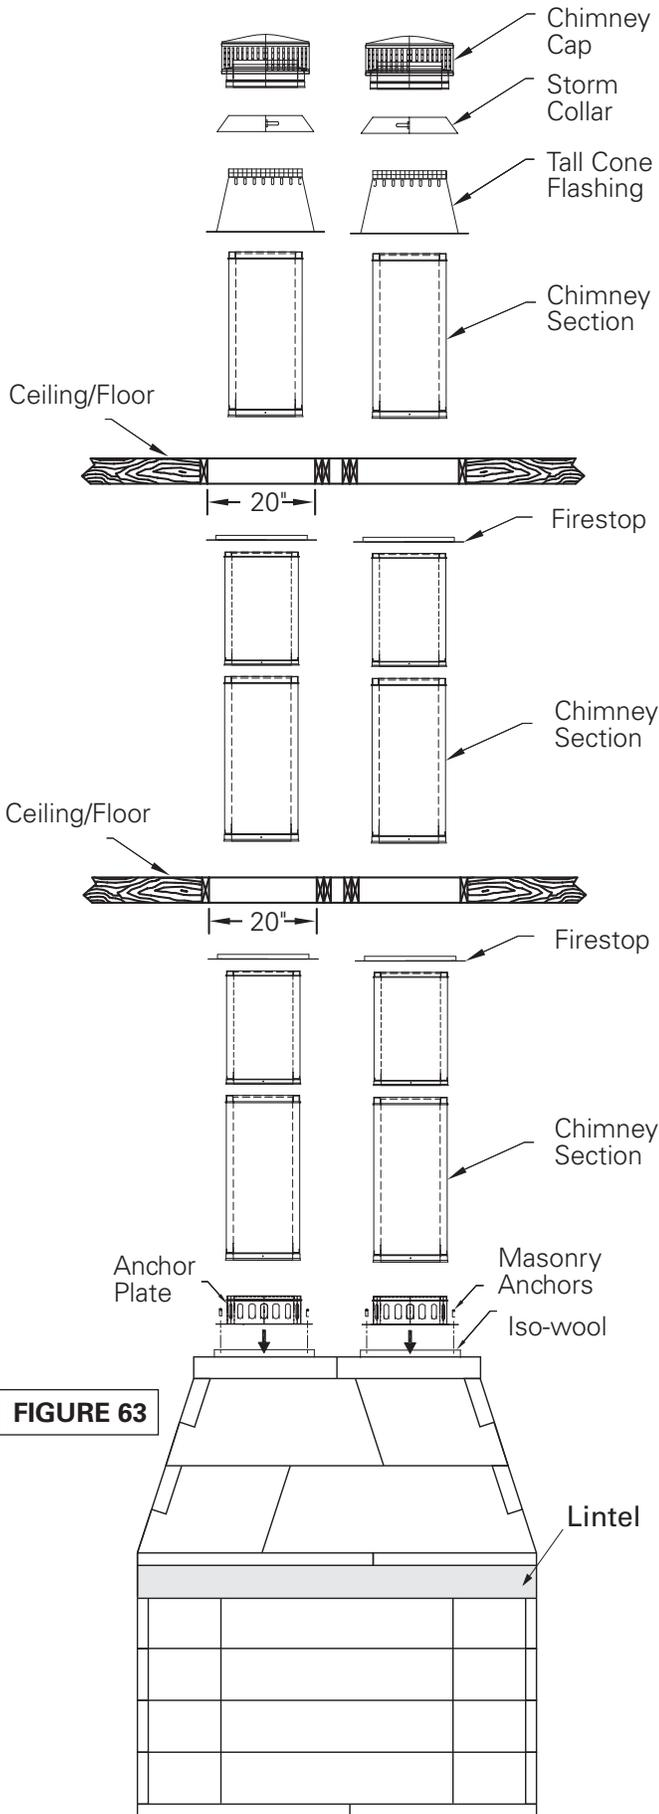

FIGURE 63
5. Install Firestop: A Firestop is required on each floor penetration in multistory installations. Building Codes require a Firestop at every floor/ceiling level including where the chimney penetrates the attic. **Figure 63** shows a typical 2 story installation with an attic.
NOTE: A Firestop is not installed where the chimney penetrates through the roof. The Firestop is installed on the underside of the ceiling/floor framing and secure in place with nails or screws. **(Figure 63)**